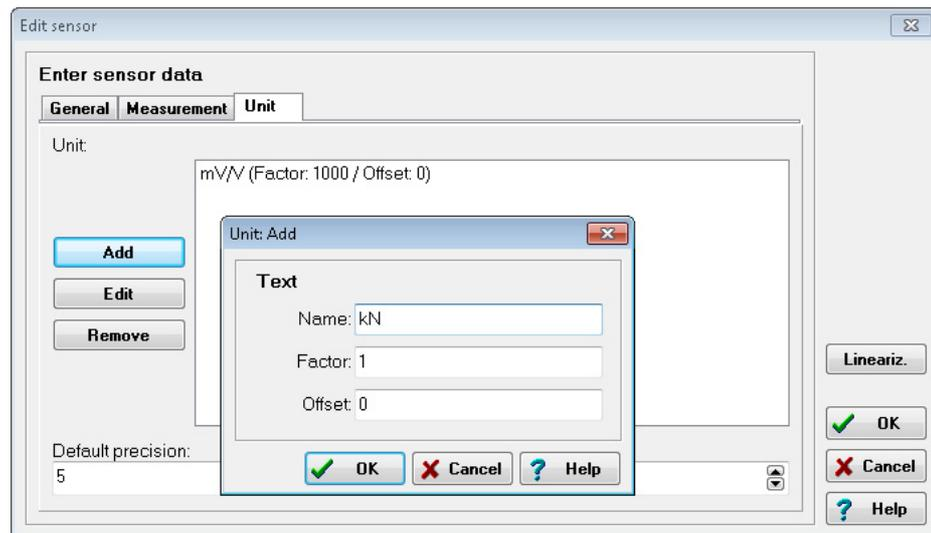

Fig. 6-8 Defining the unit for sensor scaling.
4. Click on **Edit** and the **Unit** tab to be able to define the unit measured by your sensor (Fig. 6-8).
5. Specify the required unit, e.g. **kN** (Fig. 6-8).